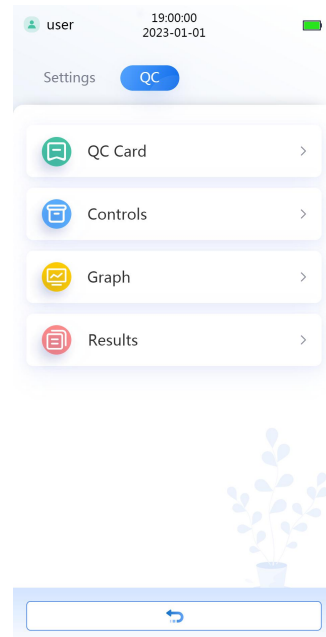

Figure 12 QC menu interface
10. Click on the QC button  in the system interface to enter the QC Settings interface (Figure 12 above).